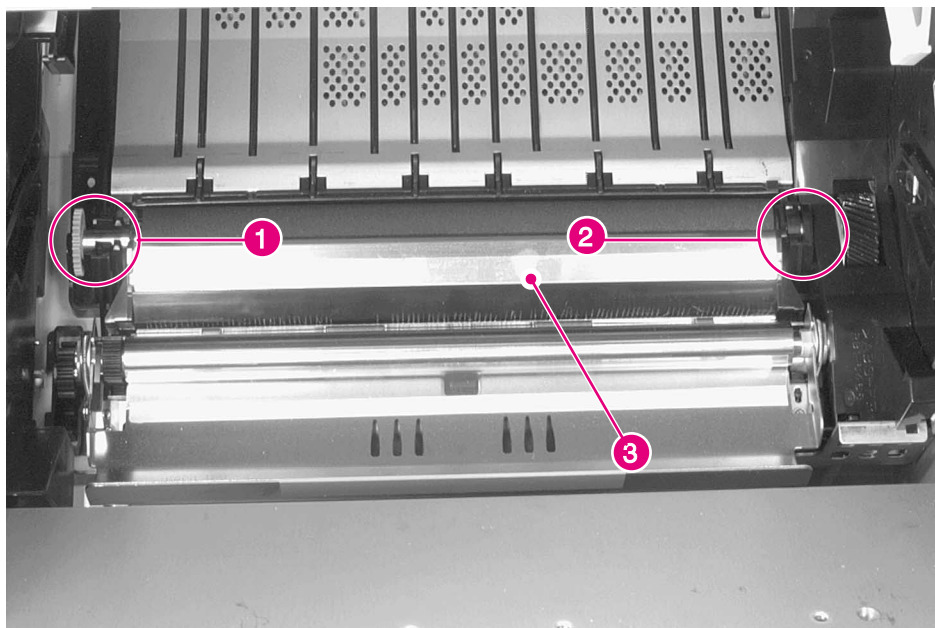

Figure 6-62 Transfer Roller Assembly
- 2 Remove the Transfer Roller Assembly (see figure 6-62 on page 337).
- Transfer Roller (see figure 6-62 on page 337)
- 2 Grasp the gear (figure 6-62, callout 1) on the left end, and carefully lift upward just enough to clear the retainer clip.
- 3 Slide the Transfer Roller Assembly to the left to release the shaft on the right end (figure 6-62, callout 2).
- 2 Hold the Transfer Roller wiper up (figure 6-62, callout 3) and slide the assembly to the right until the gear on the left end is in position.
- 4 Press the Transfer Roller wiper down (figure 6-62, callout 3) until the retaining clips snap into place.